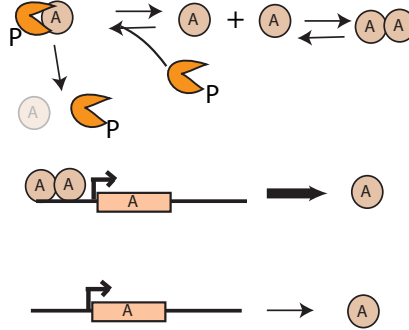

Figure 5: Cartoon for question 2
2.1 Consider a simple feedback system where protein A binds as a dimer, A_2 , to activate its own promoter, as shown in the cartoon in figure 5. A is also degraded by a protease, P . Write down the chemical equations which represent this system. (3 pts)